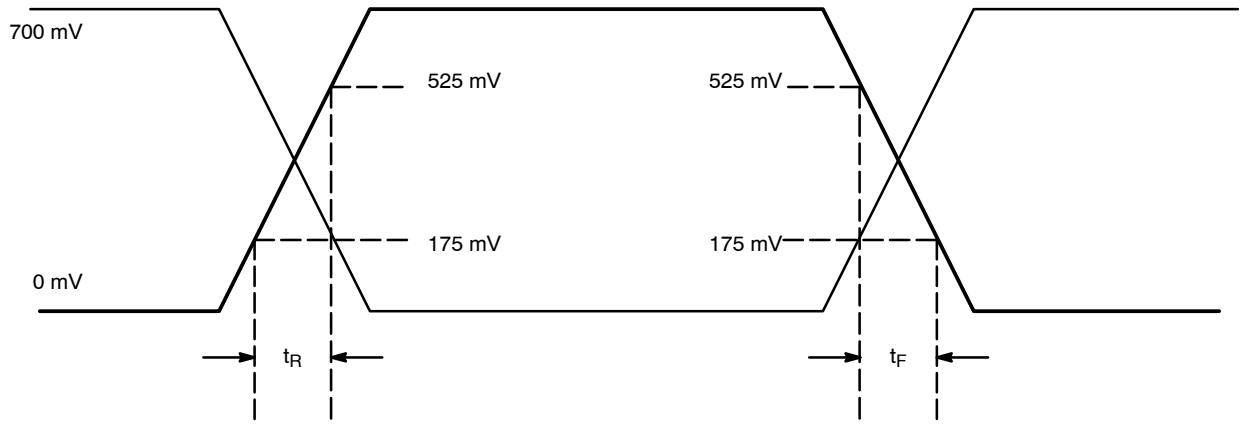

Figure 11. HCSL Output Parameter Characteristics
18. VDDXD and VDDODA power pins must be shorted to power supply voltage VDD and GNDXD and GNDODA ground pins must be shorted to power supply ground GND. Measurement taken from differential output on single-ended channel terminated with $R_S = 33.2\ \Omega$, $R_L = 50\ \Omega$, with test load capacitance of 2 pF and current biasing resistor set at 475 Ω . See Figure 11. This parameter is guaranteed by characterization. Not tested in production.